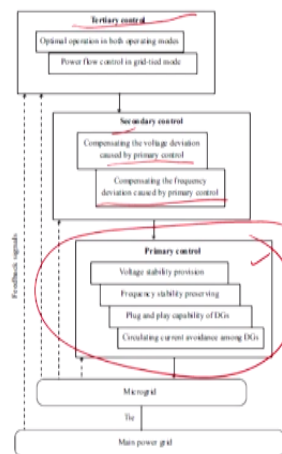

Fig.8 Hierarchical control levels of a microgrid
- The microgrid hierarchical control strategy consists of three levels, namely primary, secondary, and tertiary controls, as shown in Fig.8.